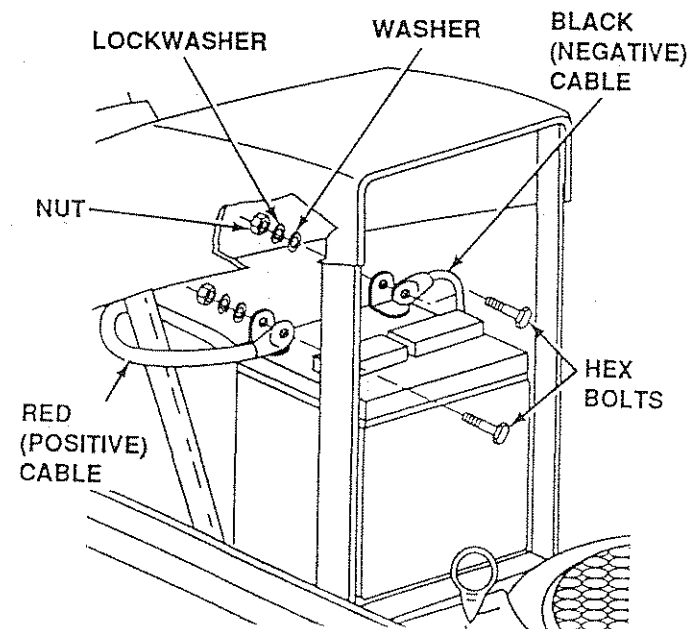

FIGURE 3
- c. Place Battery in Plastic Tray (Battery Terminals to rear of Tractor)(Fig. 3).
- a. Connect RED Battery Cable to Positive (+) Battery Terminal with Hex Bolt, Flat Washer, Lockwasher and Hex Nut (Fig. 3). Tighten securely.
- b. Connect BLACK Ground Cable to Negative (-) Battery Terminal with remaining Hex Bolt, Flat Washer, Lockwasher and Hex Nut (Fig. 3). Tighten securely.